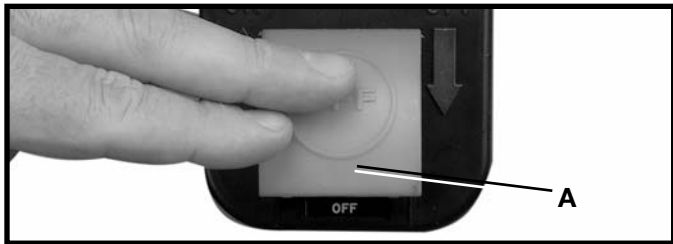

Fig. 40
2. To turn the saw "OFF," push down on switch shield (A) Fig. 40.